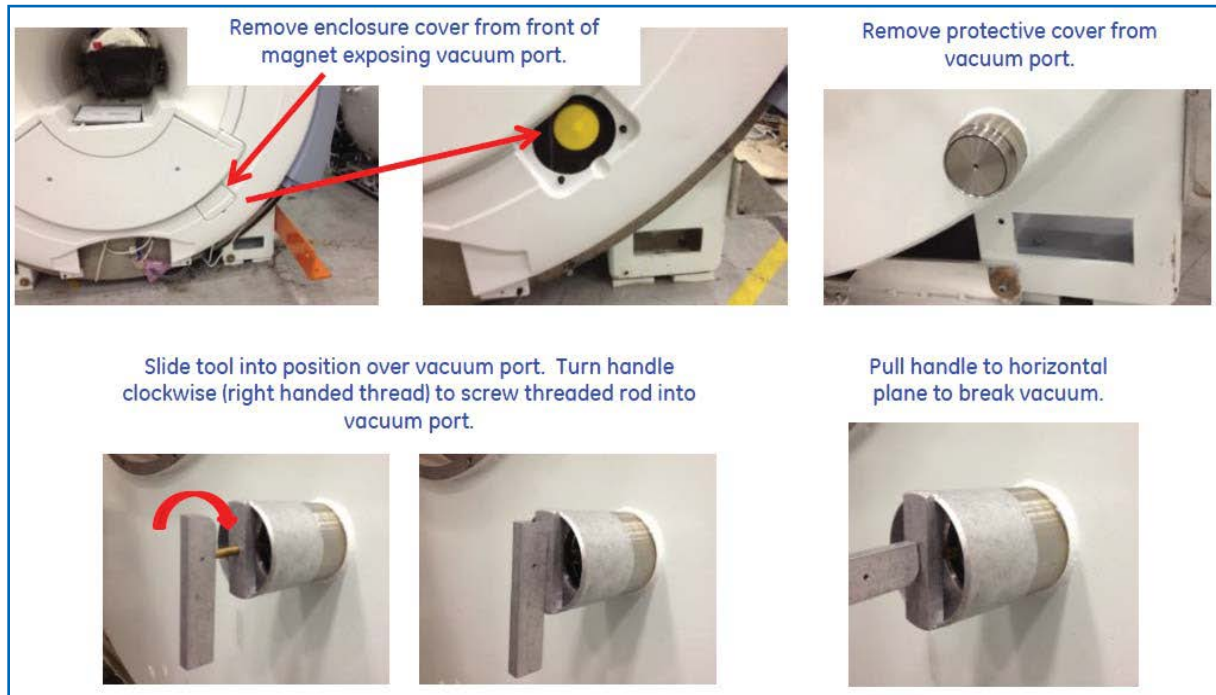

Figure 2.2 Emergency Release Tool Procedure
- Figure 2.2 below shows the step-by-step procedure on how to use the release tool in the event of an emergency quench.